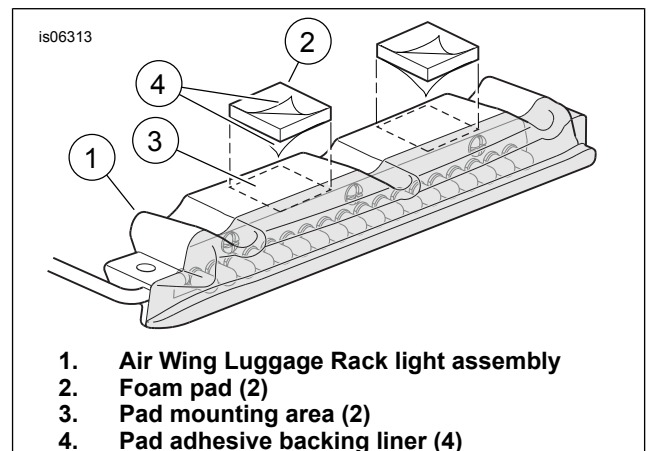

Figure 1. Attach Foam Pads to Light
4. Firmly attach the three wires of the light assembly (1) to the loop of the guide wire. Carefully pull the straight end of the guide wire to draw the wires and shrink tubing into and through the rail, and out the forward hole. Detach the light wires from the guide wire.
5. Clean the foam pad mounting areas (E) on the underside of the rack rear crossbar and (see Figure 1 ) on the light (3) with a mixture of 50-70% isopropyl alcohol and 30-50% distilled water. Allow to dry thoroughly.